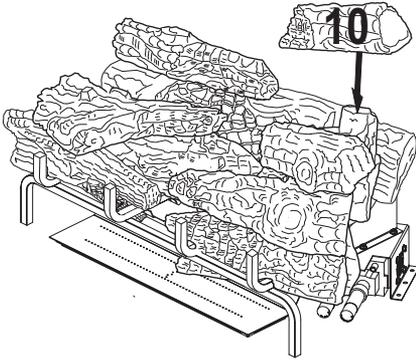

Figure 53 - Installing Log # 10
10. Place the right rear top log (#10) on top of the right rear chunk log (#7) as shown in Figure 53, page 25. Match the rectangular peg on the top of the right rear chunk log (#7) with the rectangular hole on the bottom of the right rear top log (#10).